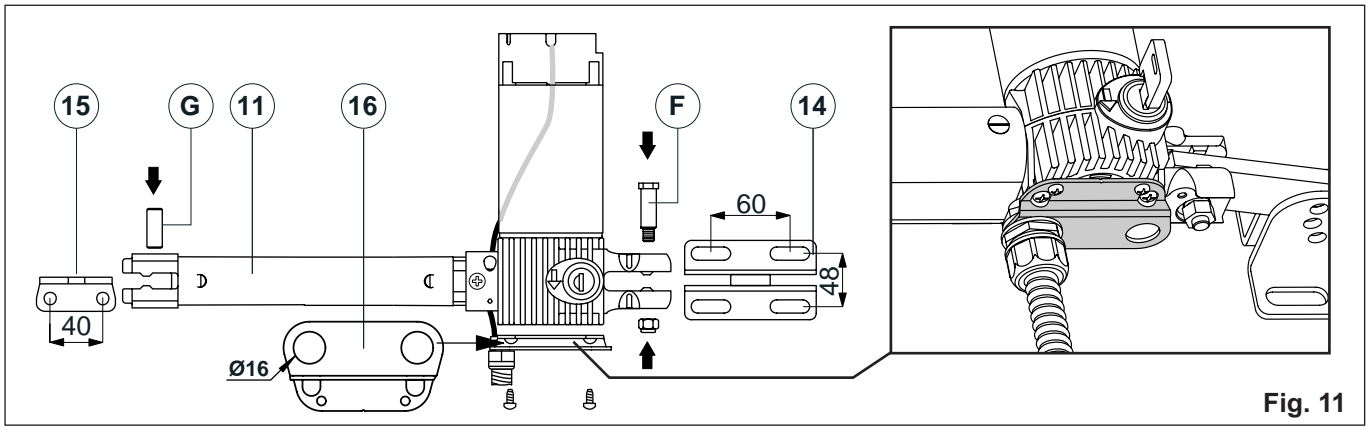

Fig. 11
- 3.5 Fit the piston onto tail bracket [14] by means of the pin [F] provided (fig. 11).
- 3.8 Fit the piston onto head bracket by means of the pin [G] provided (fig.11). For correct operation, the geared motors must be mounted **with the motor housing at the top**.